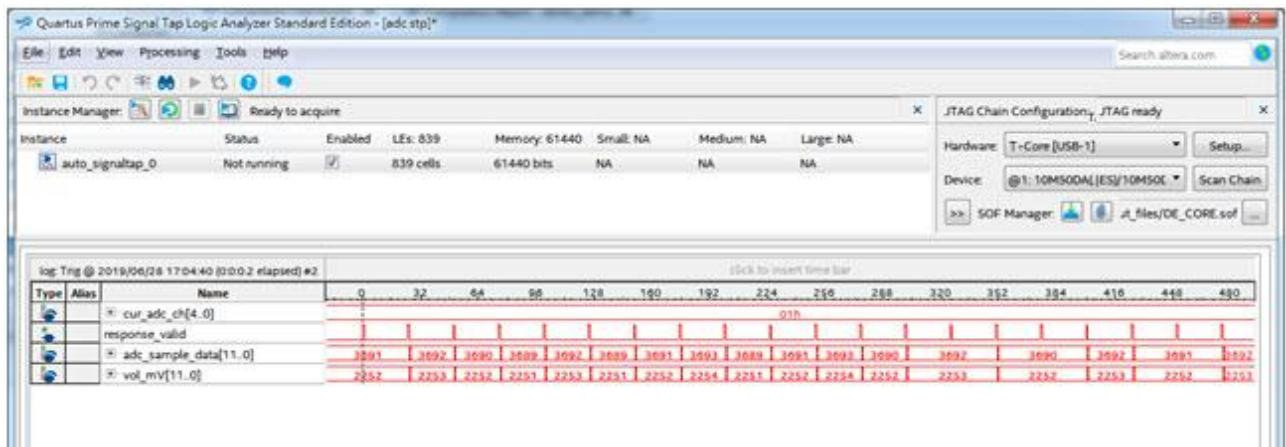

Figure 3-11 Signal Tap Logic Analyzer displays the measured channel and voltage
- The measured channel and voltage will be displayed on Signal Tap Logic Analyzer as shown in **Figure 3-11**.